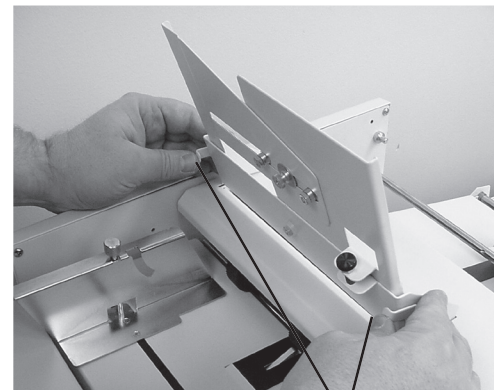

Fig. 12
5. To remove the multi-sheet feeder depress the release levers located on either side of the lower back side of the feeder (Fig. 12), tilt the feeder forward and lift. To reinstall depress the levers and reinsert.